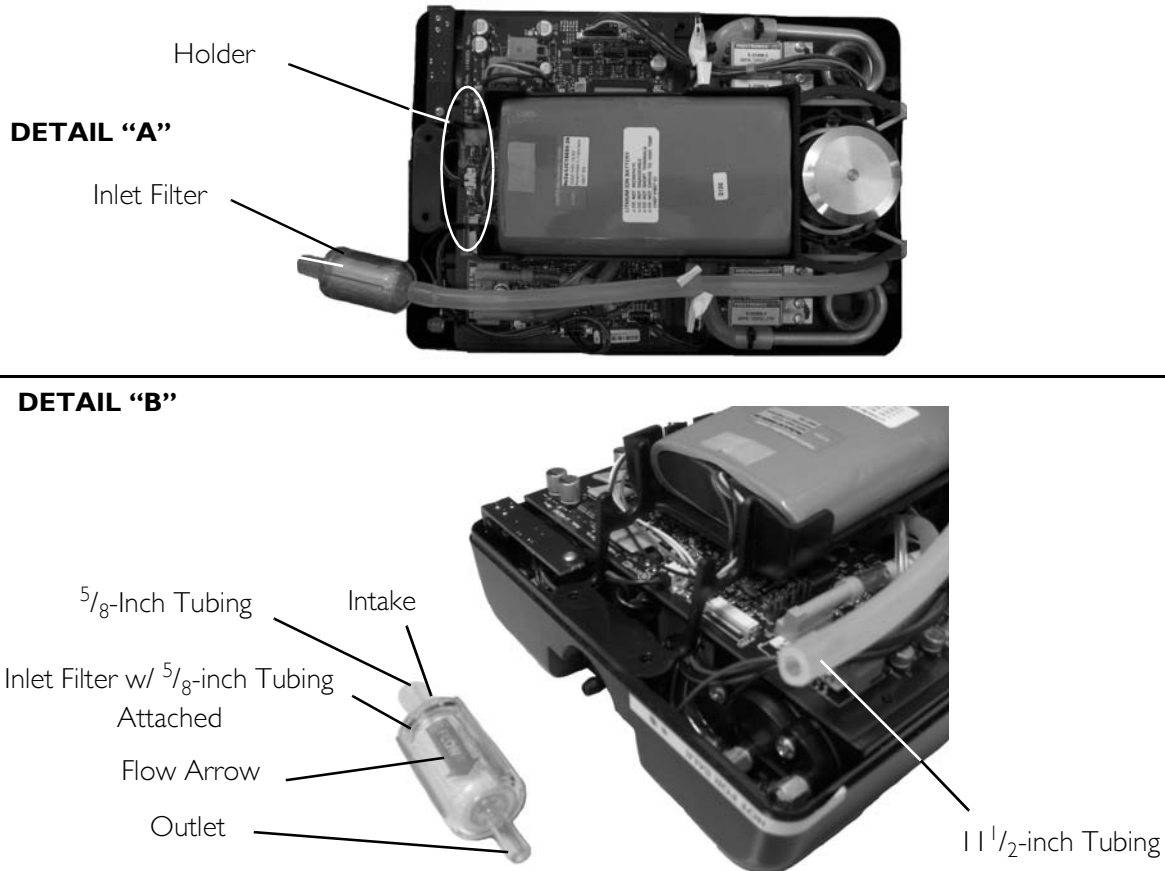

FIGURE 2.4 Replacing the Inlet Filter
NOTE: For this procedure, refer to FIGURE 2.4 and FIGURE 2.2 on page 10.
5. Connect the 11½-inch tubing to the outlet of the inlet filter (Detail “A” of FIGURE 2.4).